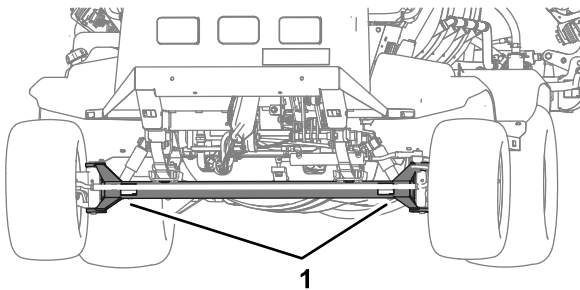
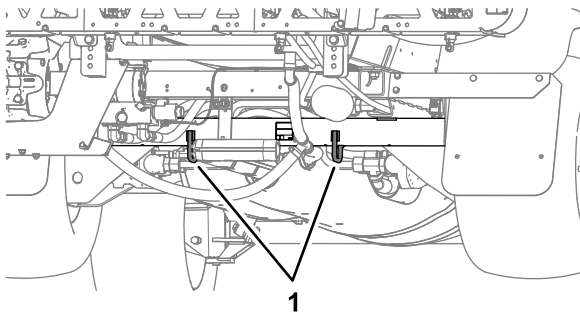

Figure 50
Figure 51
- Bind the machine securely to the transport vehicle; Figure 50 and Figure 51 illustrate the tie-down points of the machine.